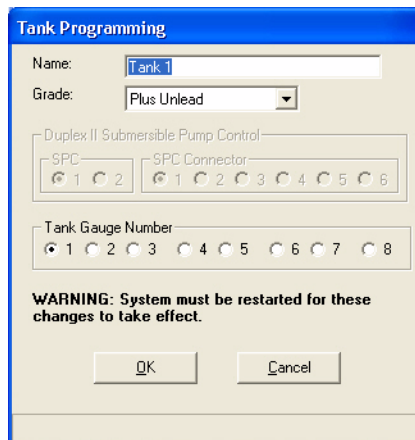

Figure 7-9 Tank Programming Modify Window
1. To add a tank, touch **Add** to display the Tank Programming window. See Figure 7-9.